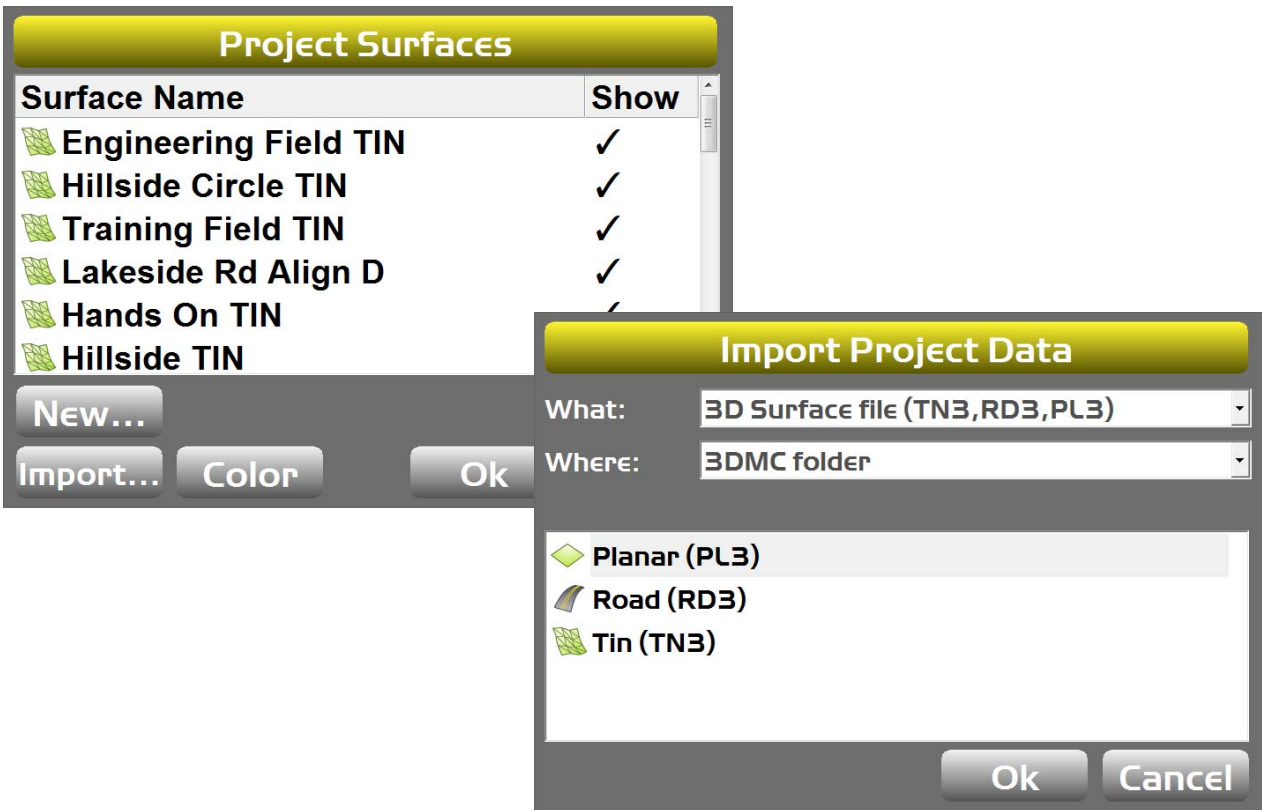

Figure 28: Project Surfaces Screen – Import Project Data
2. Tap **Import**. The **Import Project Data** screen appears (Figure 28).